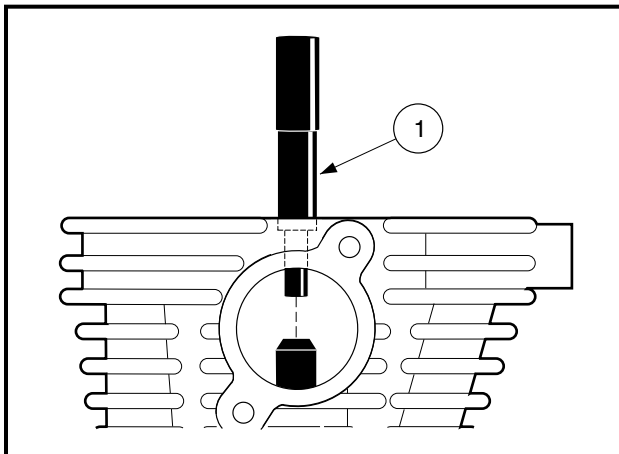

Figure 18-16 Valve Guide Removal
1. With the combustion chamber side of the head facing up, drive the guide out of the head with a valve guide arbor (1) (CCI P/N 101641202) (**Figure 18-16, Page 18-10**).